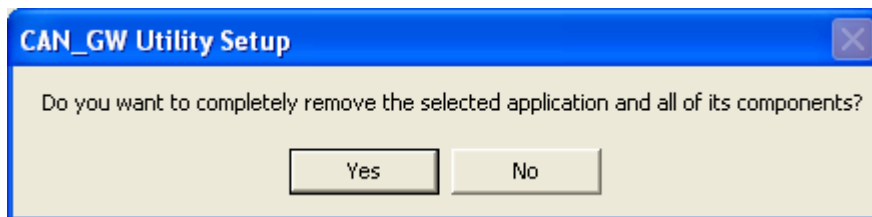

Fig 5-12. Click the button “Yes” to remove the software
Step 4: Click the “Yes” button to remove the software as shown in Fig 5-12.